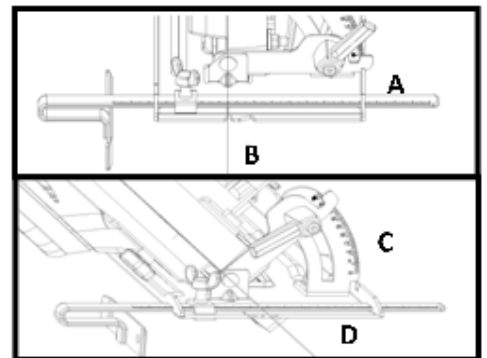

Fig.8
2. Laser guide automatically follows bevel angle. Fig.8.